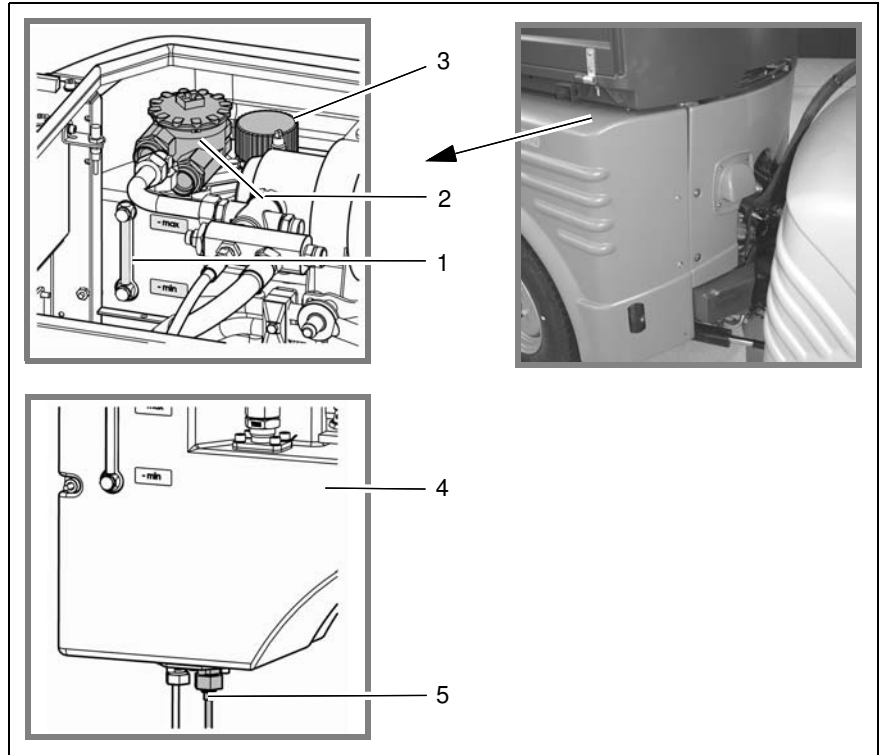

Fig.48
Check the hydraulic oil level on the fill level indicator (Fig. 48/1) every week and top up if necessary.
4. Unscrew the cover cap (Fig. 48/3) and top up the hydraulic oil.
4. Remove the cap from the suction return-line filter (Fig. 48/2) and change the suction return-line filter.
5. Unscrew the cover cap (Fig. 48/3).
6. Loosen the pipe (Fig. 48/5) below the hydraulic oil tank (Fig. 48/4) and drain the hydraulic oil.
7. Re-fit the pipe (Fig. 48/5) and pour in hydraulic oil.